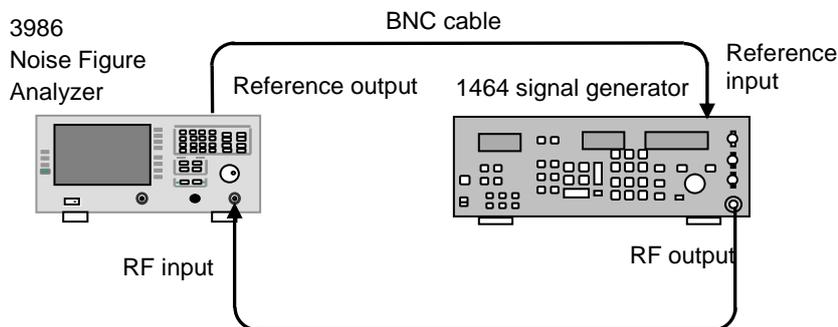

Figure 8.2 Test Block Diagram of Frequency Tuning Accuracy
**Step 1.** Connect the test equipment as shown in Figure 8.2 and warm it up for 30 min.